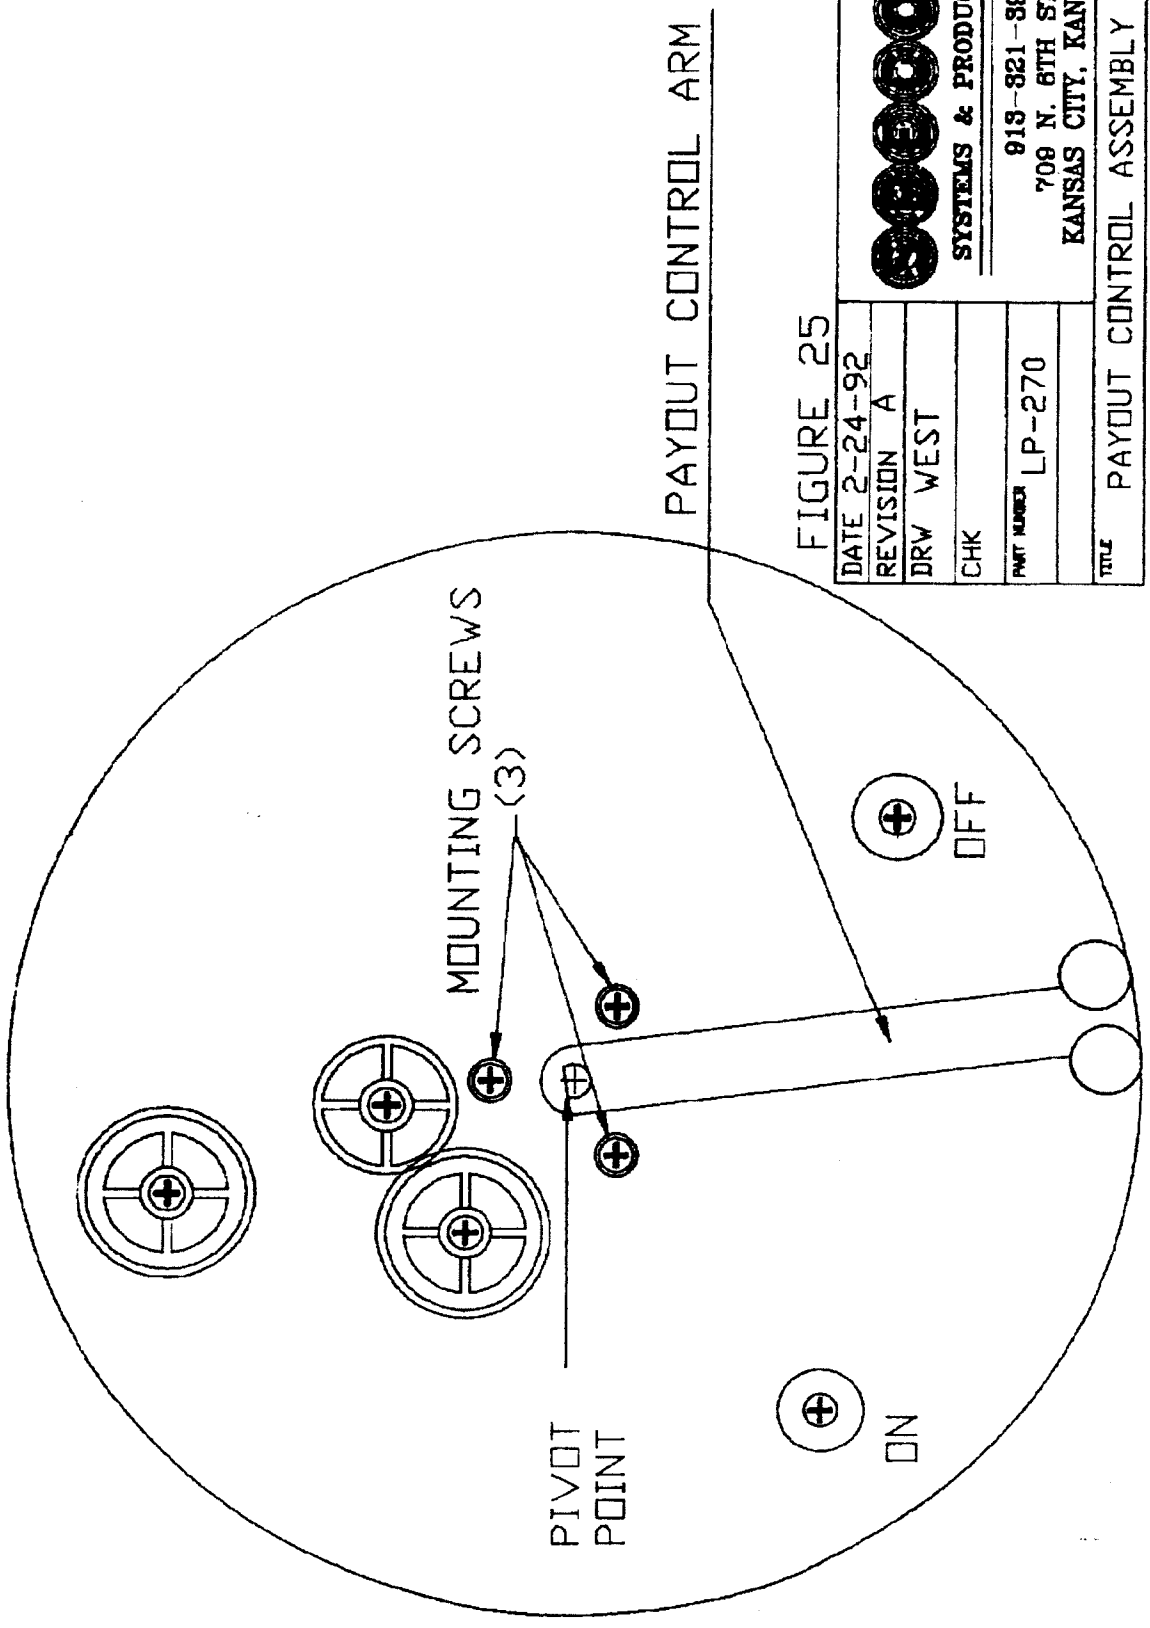

FIGURE 25
2. Remove the PAYOUT CONTROL ARM from each of the PAYOUT CONTROL ASSEMBLIES. The PAYOUT CONTROL ARM is a press fit to the CONTROL SHAFT. Pull up from the pivot end only. See Figure 25.
3. Remove the PAYOUT ASSEMBLIES by removing the three screws shown in Figure 25. After the three screws are removed the PAYOUT ASSEMBLY is free and can be set a side.